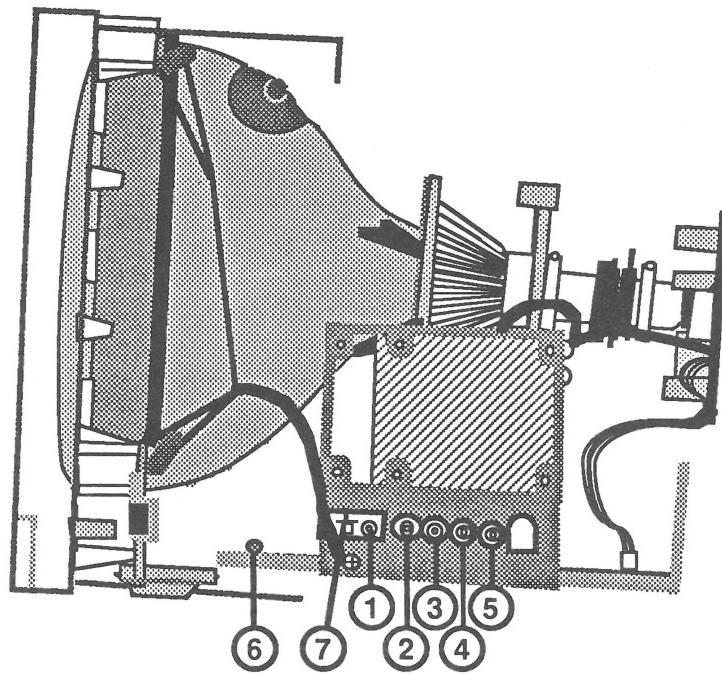

FIGURE 6
- b. **B-DRIVE** (blue) - Figure 6, #2
- c. **R-BIAS** (red) - Figure 6, #3
- d. **G-BIAS** (green) - Figure 6, #4
- e. **B-BIAS** (blue) - Figure 6, #5
- f. **SUB-BRIGHTNESS** - Figure 6, #6
- 13. Position the **SERVICE** switch (SW800) lever (Figure 6, #7) so that the lever points toward the picture tube at a 45° angle. The screen should now display a single horizontal line. Note the hue of the single horizontal line on the display screen. It must be adjusted so that it is white (neutral). No predominant color (red, blue, or green) should be visible. If the line is white, skip to step 16. However, if a predominant color is present within the horizontal line, proceed to step 14.
- 16. Set the **SERVICE** switch (Figure 6, #7) back to its original position (with the lever pointing towards the back of the monitor).
- 21. Adjust the **SUB-BRIGHTNESS** control (Figure 6, #6) so that the background on the display screen is black (no grain or grid is showing). Adjusting the **SUB-BRIGHTNESS** control in the clockwise direction increases the screen brightness level.